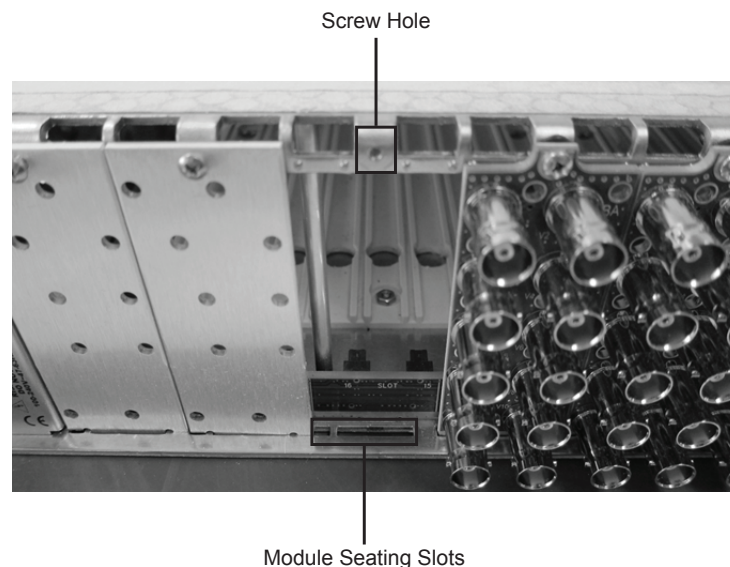

Figure 2.1 Rear Module Installation in an OG3-FR Series Frame (AVS-8764 not shown)
3. Install the bottom of the Rear Module in the **Module Seating Slot** at the base of the frame’s back plane. (**Figure 2.1**)